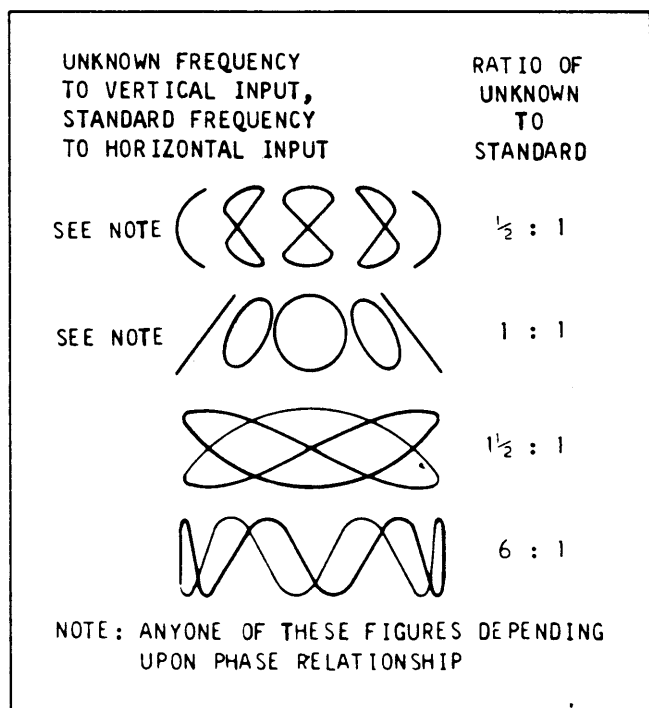

Fig. 23. Lissajous waveforms used for frequency measurement.
4. The resulting pattern, called a Lissajous pattern, shows the ratio between the two frequencies. See Fig. 23.